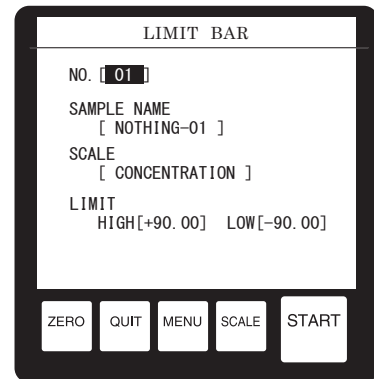

Fig.17-2
- d) The setting inside "[]" under SAMPLE NAME should be highlighted. Enter the name of the sample, using the numeric keypad. Press → after entering each letter/number to move the cursor to the right for the next letter/number to be entered (Fig.17-2). Space allows for up to 10 letters. When the whole name has been entered, press the ← key.